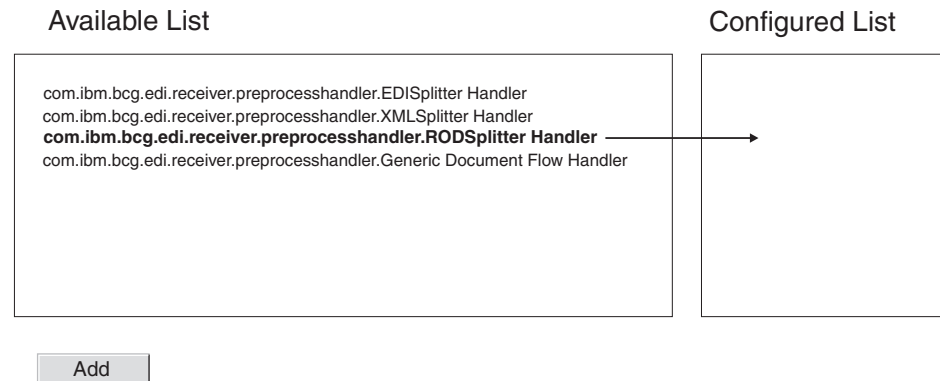

Figure 17. Configuring the preprocessing step for a target
- a. Select a handler from the **Available List** and click **Add**. Note that the handler moves from the **Available List** to the **Configured List**, as illustrated in Figure 17: